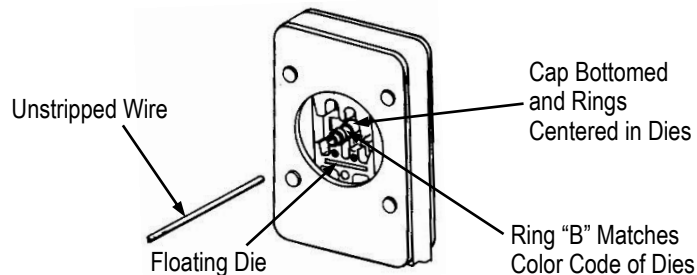

Figure 2
- Full length of rings not crimped (Cap was not fully bottomed in tool; see Figure 2).